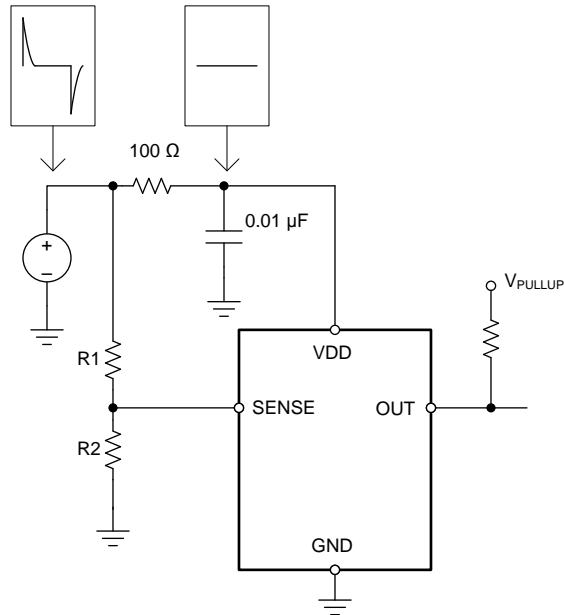

Figure 17. Using a RC Filter to Remove High-Frequency Disturbances on V_{DD}
The TLV6713 has a 40-V absolute maximum rating on the VDD pin, with a recommended maximum operating condition of 36 V. If the voltage supply that provides power to VDD is susceptible to any large voltage transient that may exceed 40 V, or if the supply exhibits high voltage slew rates greater than 1 V/ μ s, then place an RC filter between the supply and VDD to filter any high-frequency transient surges on the VDD pin. In these cases, a 100- Ω resistor and 0.01- μ F capacitor are required, as shown in Figure 17.
- Avoid using long traces for the VDD supply node. The VDD capacitor (C_{VDD}), along with parasitic inductance from the supply to the capacitor, might form an LC tank and create ringing with peak voltages above the maximum VDD voltage. If long traces are unavoidable, see Figure 17 for an example of filtering VDD.